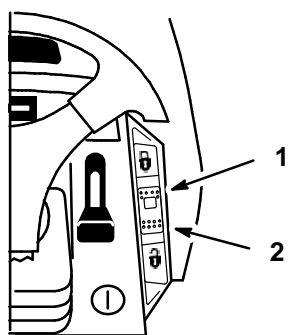

Figure 15
The cruise control is optional on some models. A 3 position: Set-Lock (spring loaded), On and Off-Unlock dash switch (Fig. 15) controls the engagement. Cruise control maintains the traction control position without foot pressure. Cruise control is intended for operation in the forward direction only. Do not use cruise control in reverse.
1. Begin driving tractor: Refer to Driving Forward or Backward, Page 16. While holding your foot steady on the traction control, push the cruise control switch (Fig. 15) to the “SET”–“LOCK” position.
1. While holding your foot steady on the traction control, move the cruise control switch (Fig. 15) to the “UNLOCK”–“OFF” position.